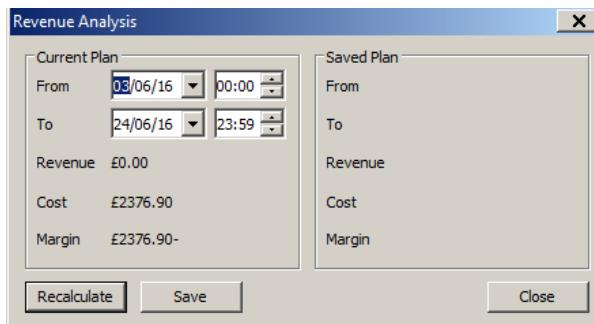

Figure 180
3. The Revenue Analysis window is displayed (Figure 180)